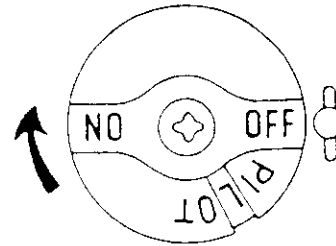

Figure 3
4. Release and continue rotating to OFF. See Figure 3.